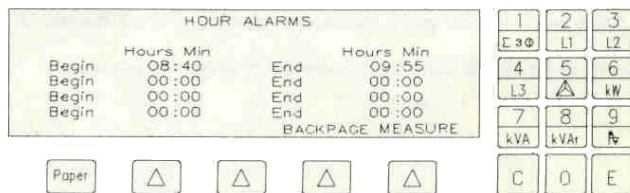

Fig. 3.33
-Locate the alarm menu and press [3] ; this calls up a display page which shows 4 alarm periods, for which the operator must set the begin and end times (See Fig. 3.33).